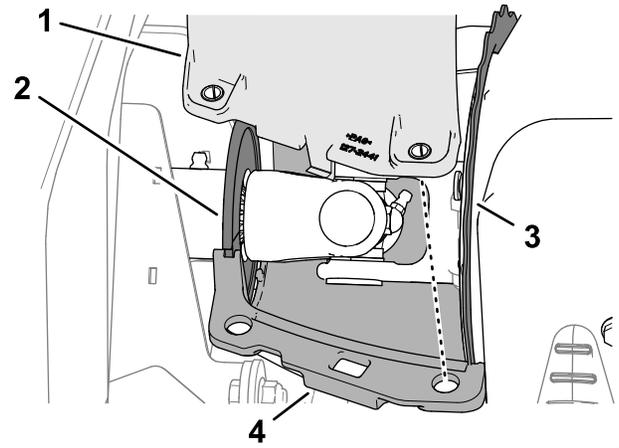

Figure 67
1. Align the grooves in the top and bottom generator cooling-air shrouds with the driveshaft-brush seal and the flange of the generator cover (Figure 67).